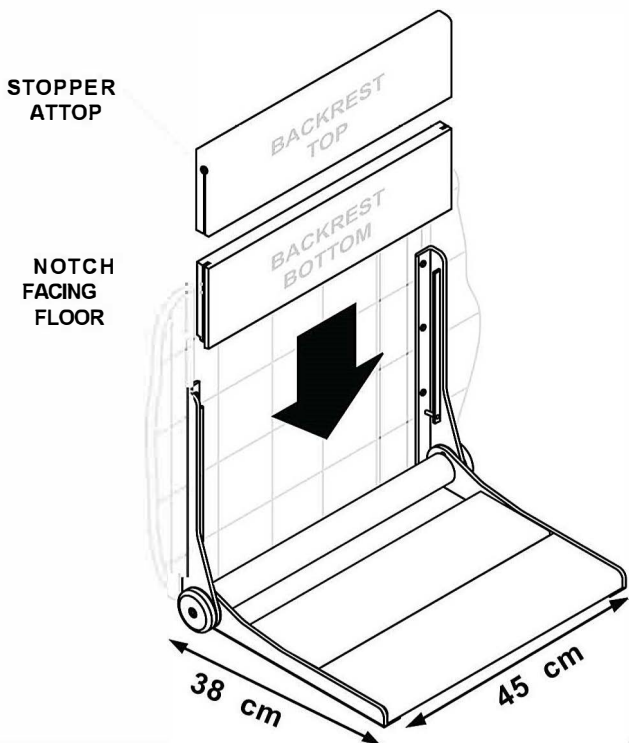

Figure 1.
1. Identify the horizontal and vertical location of the Seat. Specifically, identify the location of the top hole on one side of the wall bracket as shown in of Figure 1 (a).
5. Once attached, use level as shown in Figure 1 (b) to ensure seat is straight. Identify the location of the top hole on the opposite wall bracket.